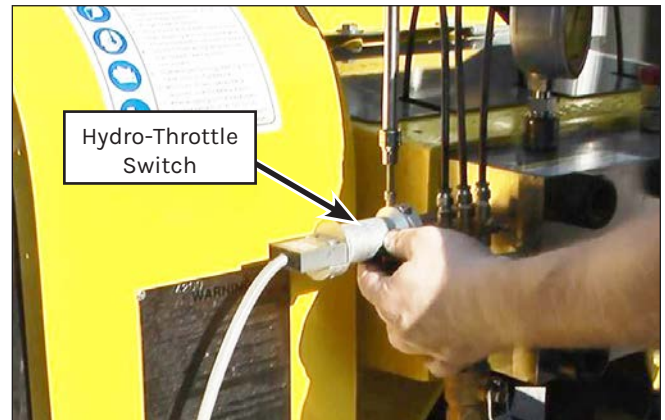

Figure 58: Hydro-throttle Switch.
3. Remove the two bolts that secure the hydro-throttle switch aluminum housing (Figure 58) to the brass cartridge in the manifold. Remove the switch and housing and set aside.